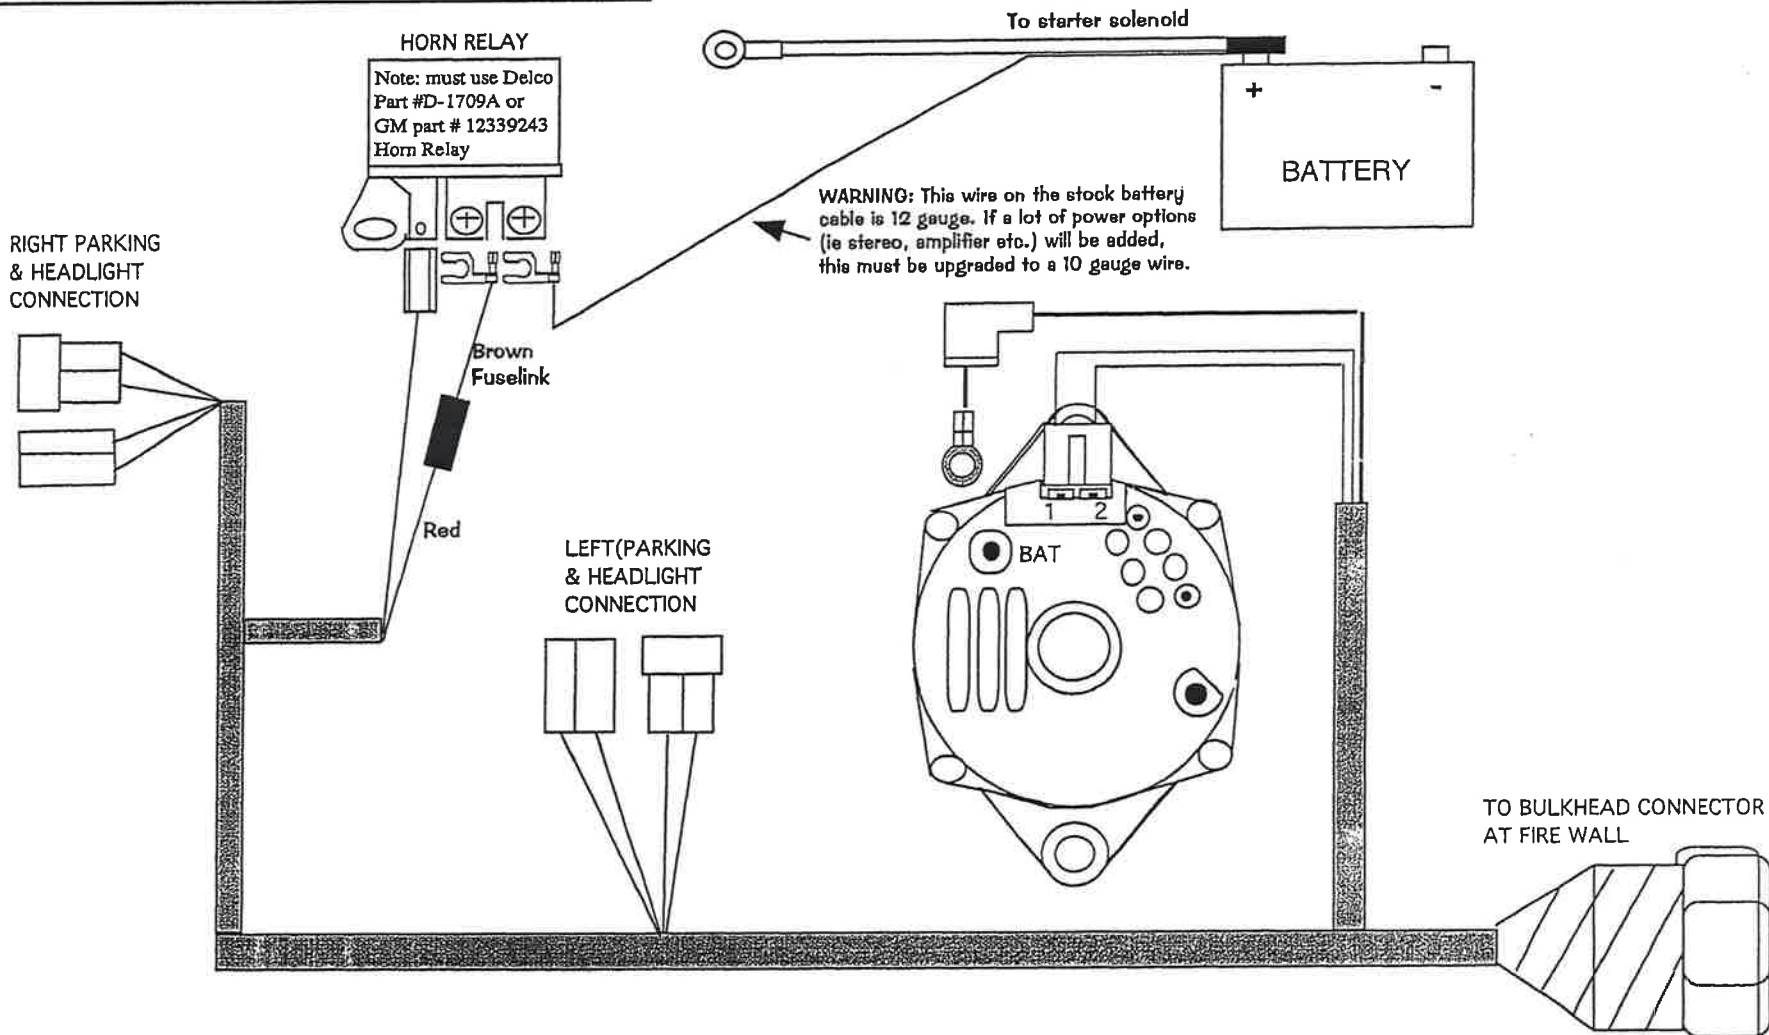

FIGURE 1 - Front light harness hookup
2. Plug the Front Light Harness into the bulkhead connector on the fire wall. Route the wires forward to the headlights and parking lights in the same position as your old Front Light Harness. Install the new horn relay onto the radiator core support in the same position as your old one. Install the 2 wire connector and brown fusible link from the Front Lamp Harness to the horn relay as shown in Figure 1. (This harness must be used with the new horn relay, GM Part # 12339243 or Delco Part # D-1709A).
3. Connect the wires to the alternator as shown in Figure 1.
4. Find the secondary lead from your stock battery cable and attach it to the horn relay as shown in Figure 1. **Warning:** The wire on the stock battery cable is 12 gauge. If a lot of power options (i.e. stereo, amplifiers, etc.) will be added, this wire must be upgraded to 10 gauge.